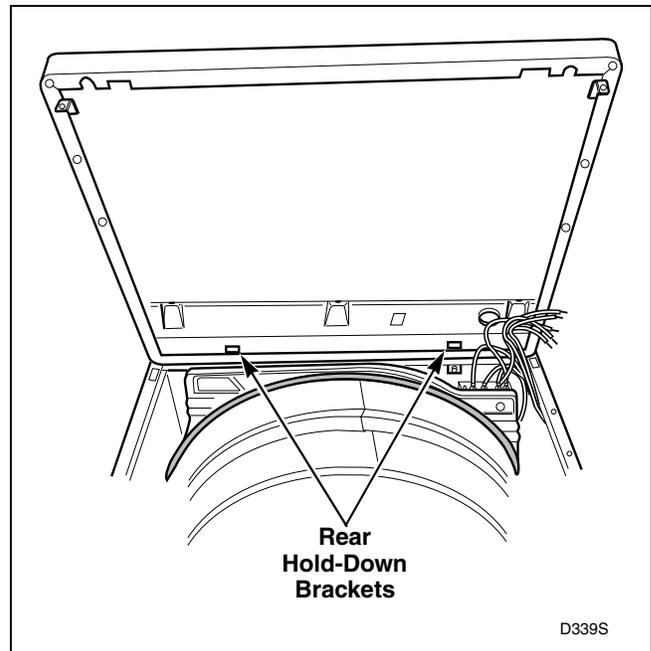

Figure 10
- g. Lift cabinet top to a vertical position by hinging it on the rear hold-down brackets. Refer to *Figure 10*.
Carefully withdraw wire harness through hole in cabinet top and lift the top off the hold-down brackets. Refer to *Figure 10*.